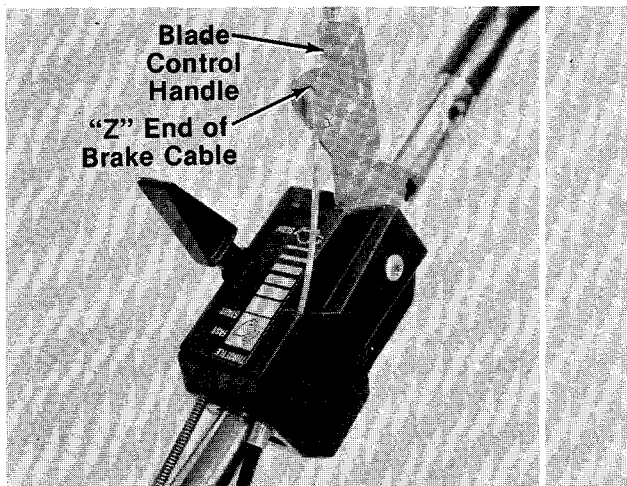

**FIGURE 6.**
- Place the end of the brake cable into the upper hole on the bottom of the throttle control housing, and through the slot as shown in figure 6. Be careful not to bend or kink the cable.